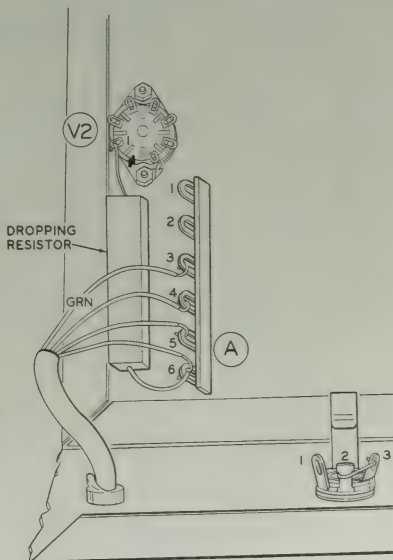
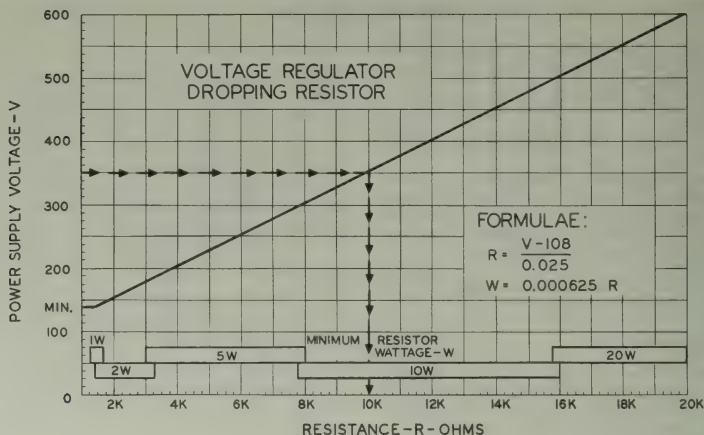
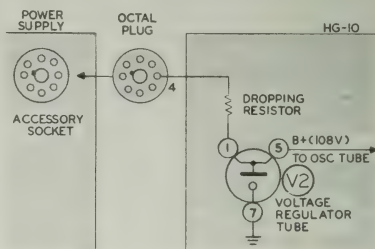

Figure 1
Figure 2
Figure 3
- () Disconnect the green wire of the power cable from lug 2 of terminal strip A, then reconnect this wire to lug 3 of terminal strip A. See Figure 1.
- () Clip out the bare wire connected between lugs 2 and 3 of the KEY jack. See Figure 1.
- () Referring to Figure 1, disconnect the green wire of the power cable from lug 2 of terminal strip A, then reconnect this wire to lug 3 of terminal strip A.
The value of the B+ voltage applied to the voltage regulator tube in the VFO is critical. For this reason, the value of the Dropping Resistor in series with the VR tube must be chosen to provide the correct voltage. The chart in Figure 2 should be used to determine the correct resistance and wattage of the Dropping Resistor. For example: If the B+ available from the transmitter is 350 volts, draw a line from the
350 volt point on the vertical scale across to the diagonal line of the graph. Then draw a line down from the point of intersection, to the horizontal scale. The point that this line crosses the horizontal scale indicates the resistance value and wattage for the Dropping Resistor. This example is shown by the line of arrows on Figure 2. Do not use smaller resistance or wattage values. The correct Dropping Resistor should be installed in the VFO as shown in Figure 1. The 10 K Ω , 10 watt resistor, already in the VFO, should be removed. Figure 3 shows the VR tube and Dropping Resistor circuit schematically.